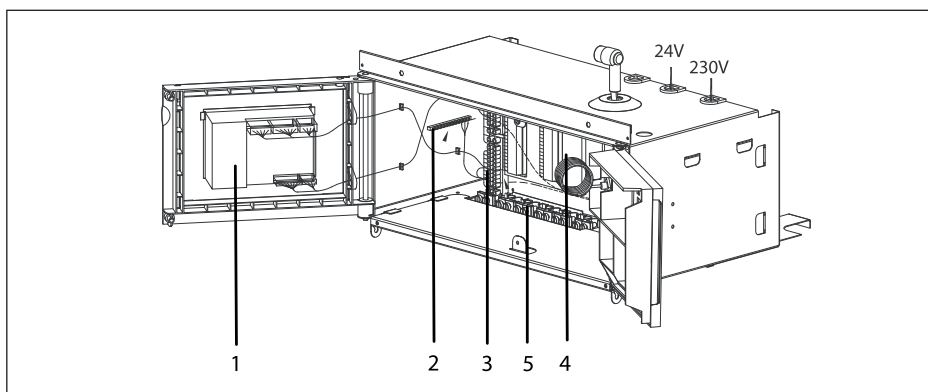
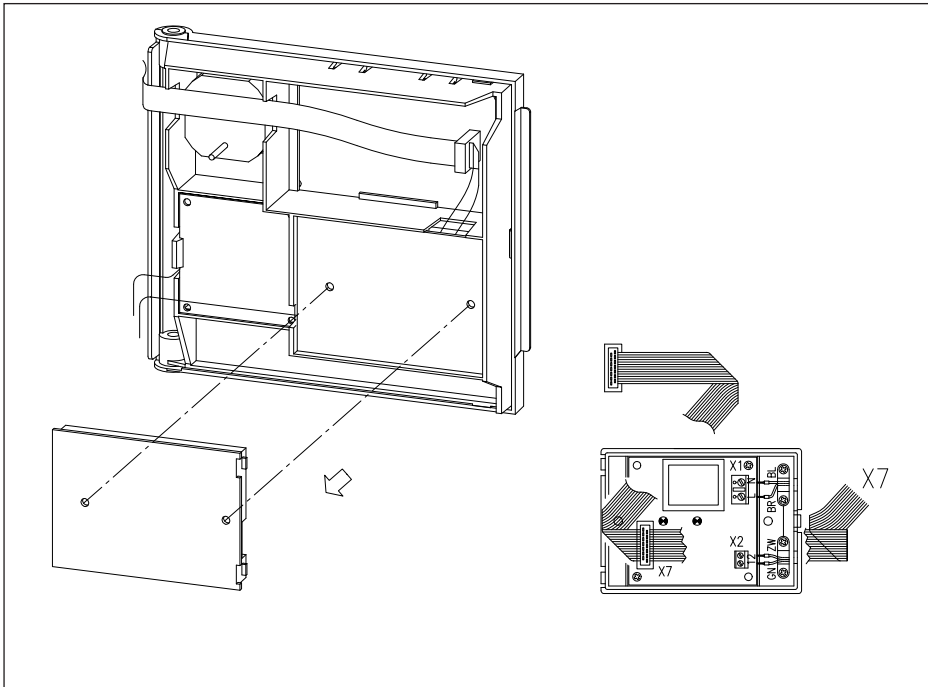

Fig. 15 Fitting 2945 C3 K controller
Fig. 16 Fitting the interface
To make full use of the boiler's modulating feature, an **OpenTherm®** or a **rematic®** control can be connected. These controls will provide optimised time and weather compensation to achieve maximum efficiency and minimum boiler cycling whilst maintaining design condition within the building. An optional **OpenTherm®** or **rematic®** interface must be integrated in the boiler, (to fit see Fig. 16).
- **2945 C3 K** - Optimising / weather-compensated boiler control for multiple boilers. These controls are supplied with outside sensor, room sensor, flow sensor (used for multiple boiler installation only) mounting and wiring kit for installation in the boiler, see Fig. 15. Communication between the Optimising / weather-compensated control and the boiler control system is via an interface PCB supplied with the kit (to fit see Fig. 16). Set the \boxed{X} value of the boiler control operation parameter ($\boxed{R_1}$) to $\boxed{1}$.